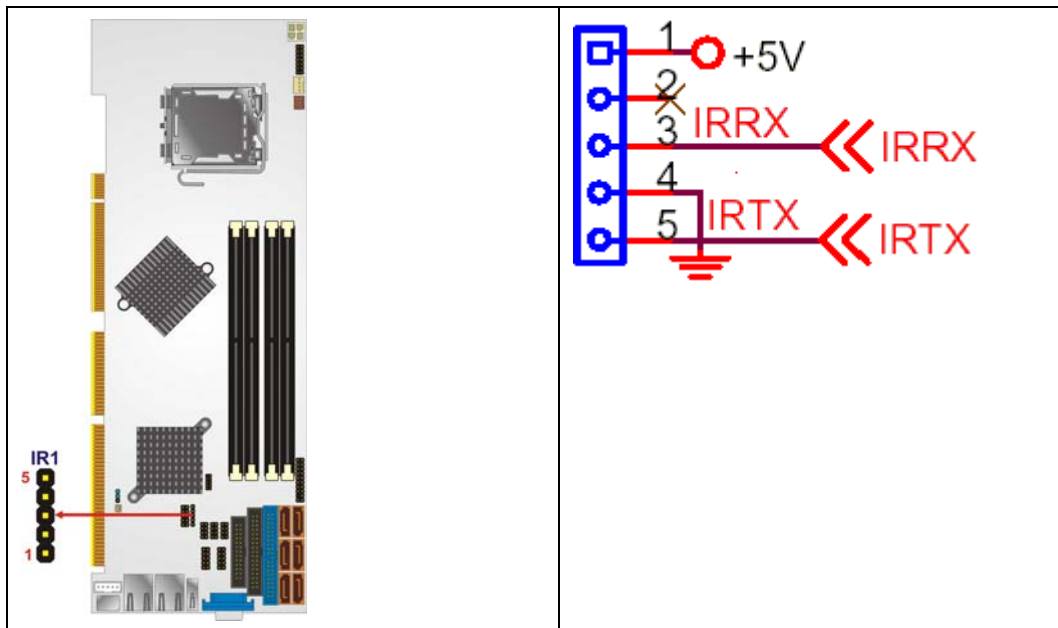

Figure 4-8: Infrared Connector Location
- CN Location:** See **Figure 4-8**